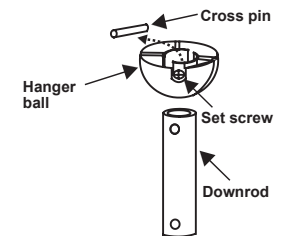

Figure 6
Step 3. Remove hanger ball from downrod assembly by loosening set screws, removing the cross pin, and sliding ball off rod. (Fig. 6)